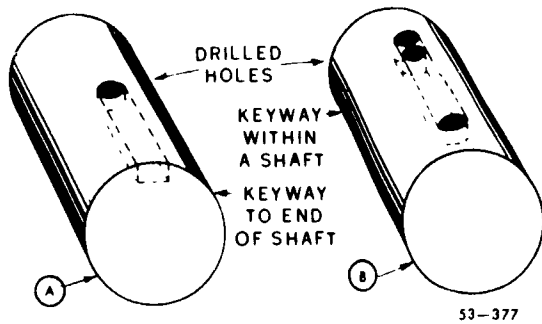
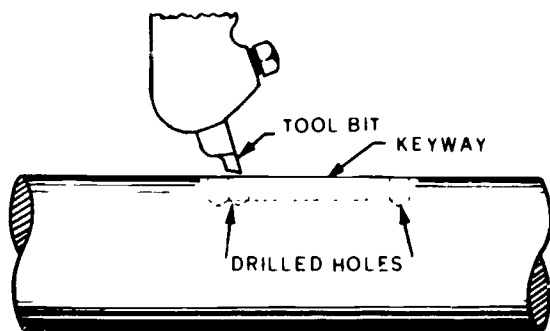

Figure 2-23 Drilled holes for keyseats
Figure 2-24 Keyseat slotting tool.
**External keyseats.** If the keyseat you are to machine does not extend the full length of the shaft, drill a hole at the point where they keyseat will terminate, as shown in figure 2-23,A. The diameter of the drill
should be equal to the width of the keyseat. The depth of the drilled hole, excluding the conical point of the drill, should be equal to the depth of the keyseat. The hole prevents chips from building up in front of the cutting tool and permits machining the keyseat to its full length. If both ends of the keyseat terminate on the shaft, drill holes at both ends of the keyseat, as shown in figure 2-23,B. Drill another hole adjacent to the hole on the end of the keyseat where the cut will originate, as shown in figure 2-24. Remove the metal between the holes with an end mill or by chiseling and filing. The elongated hole permits the cutting tool to drop into position. Grind away the back portion of the tool bit, as shown in figure 2-24, to provide additional clearance between the tool and the sides of the holes. Position and set the length of the stroke carefully. If the length and location of the stroke are incorrect, the tool or the work could be damaged, or you could be injured, *so be careful!* Measure the depth of the keyseat along the side from the bottom to the edge formed by the intersection of the side and the circumference of the shaft. You can find the recommended dimensions of keyseats for shafts of various diameters in machinists' publications, such as *Machinery's Handbook*.